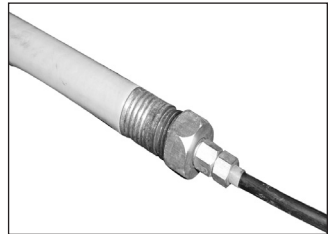

Figure-3
2. Attaching the water hose. (Figure-3)